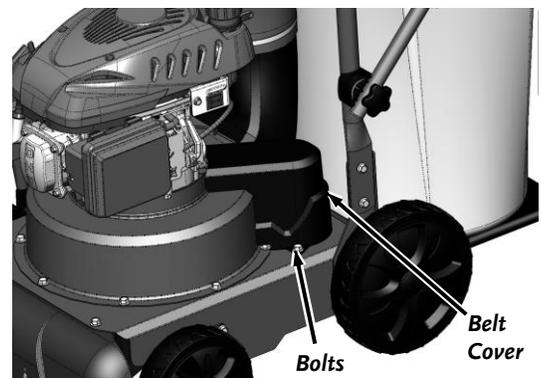

Figure 40
2. Remove the two Bolts that Secure the Belt Cover to the Frame using a 1/2" wrench (**Figure 40**). Remove the Belt Cover.